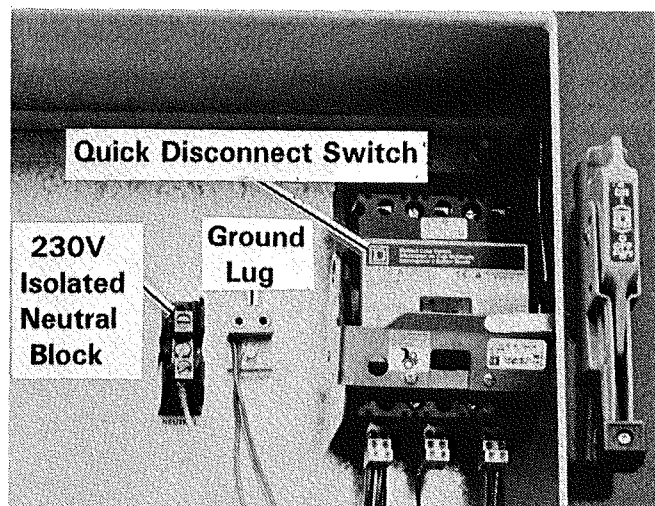

Figure 8 - Magnetic Starter Cabinet Model CF720 Single Phase 230 Volt
2. Connect the power supply to the top lugs of the dryer disconnect switch located in the upper magnetic starter cabinet. See Figure 8.
3. When a 230 volt power supply is used, connect the supply neutral wire to the isolated neutral lug located in the starter cabinet. See Figure 8.
IMPORTANT: The dryer controls operate on 50/60 cycle single phase 110/115V power. Dryers that operate on 230V three phase power must have the 230V supply wire connected to the center lug of the dryer disconnect switch as shown in Figure 8. If the 230V power supply wire is mistakenly connected to a 115V lug and the 115V wire that supplies power to the dryer controls is connected to this lug, the dryer controls will be damaged.
5. For this reason, the 115V power supply wire to the dryer control panel is not connected to the disconnect switch at the factory. There is a loose black wire with an orange tag attached that reads "115 Volts" that is close to the disconnect switch. Connect this wire to one of the 115 volt lugs at the bottom of the switch. See Figure 8.